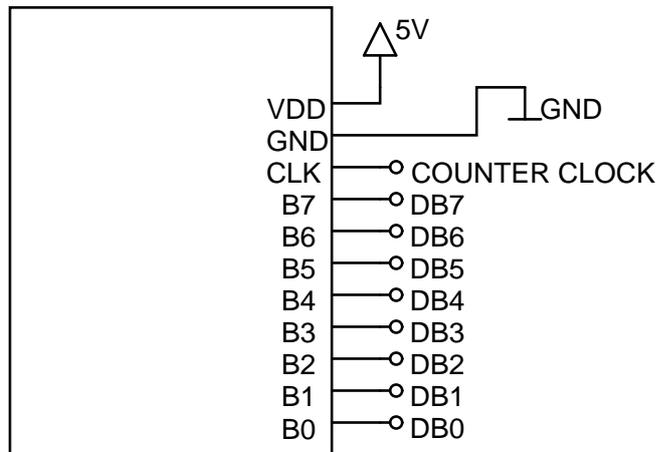

Figure 1: Pin assignments for the printed circuit board that contains the counter and memory.
Figure 1 shows the pin assignments for the printed circuit board. The pins for the eight memory output data bits as well as the clock, power and ground pins are on the right hand side. You should connect the power pin to the 5-V power supply on the protoboard, and the ground pin to ground on the protoboard.
- (4-5) Connect the eight data-bit inputs of the digital-to-analog converter to their corresponding data-bit outputs from the memory; refer to Figure 1 for the memory pin assignments. With the oscilloscope, observe the converter output v_{DAC} . You should see an audio signal reconstructed in a piecewise constant manner. Adjust the offset voltage v_{OFF} so that the audio signal is centered around 0 V.